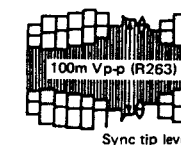

Figure 2-8
4. Adjust R263 (record luminance level control) so that the sync tip level becomes 100m Vp-p as shown in Fig. 2-8.